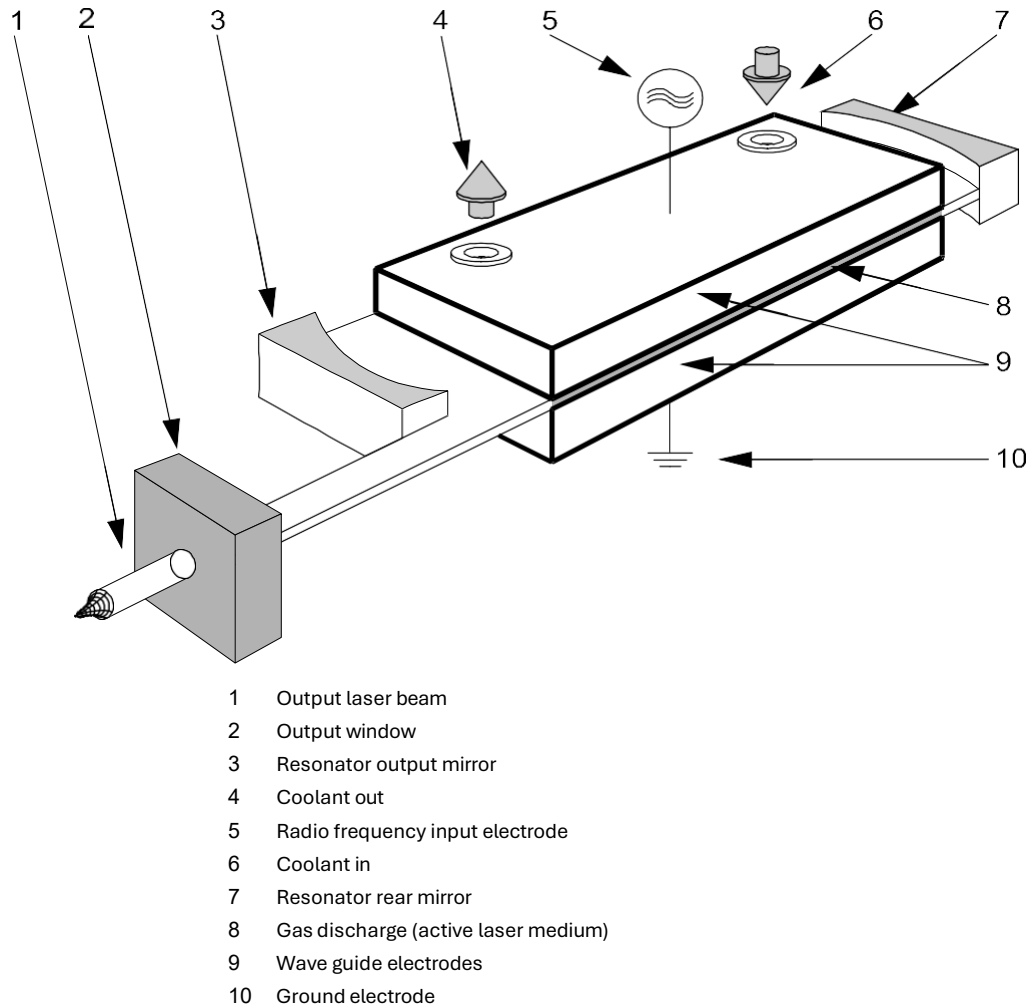

Figure 15 - Diffusion cooled slab laser components
Figure 15 shows the principle of operation of a slab laser. A gas discharge (8) forms the active laser medium and is established between the wave guide electrodes (9) by a radio frequency voltage (5, 10). The rear mirror (7) and output mirror (3) form the optical resonator. The laser beam (1) is produced within the resonator and is emitted through an output window (2). Liquid coolant flowing between the input (6) and output (4) is used to cool the electrodes.